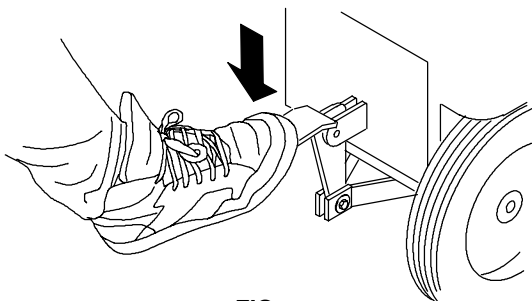

FIG. 7.
- Raise dispenser assembly off floor. Step down on pedal to raise dispenser to transport position (Figure 7.).